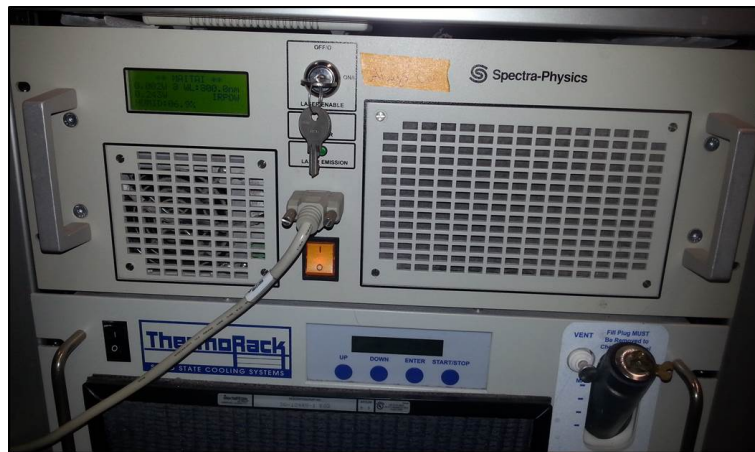

Figure 1: Power and Key always ON.
1. Check the Mai Tai laser (Figure 1).